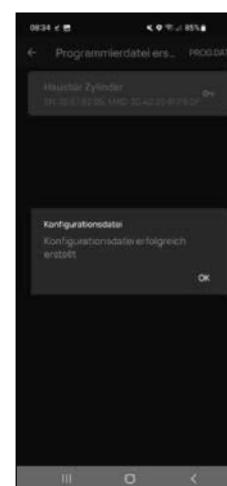

Fig. 4
- ⑤ After a short moment, a message appears informing you that your programming file has been created. Confirm with "OK" (Fig. 4).